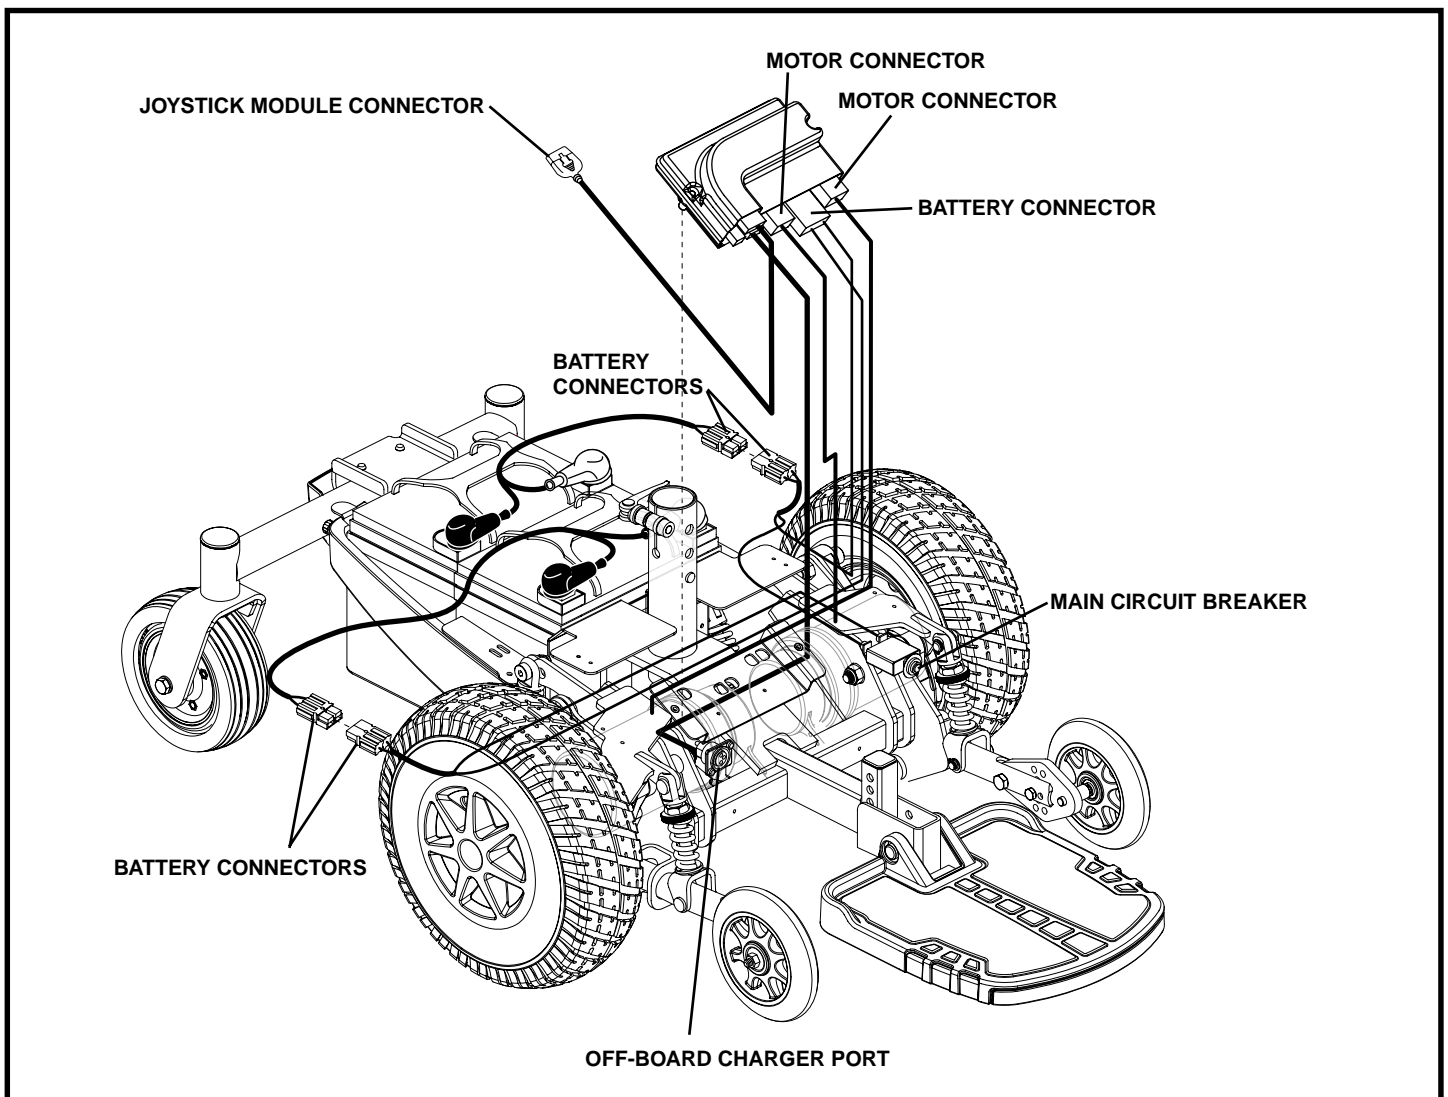

Figure 7. Jazzy Select Electrical Components
2. Make sure that the power chair is in drive mode. See figure 7.